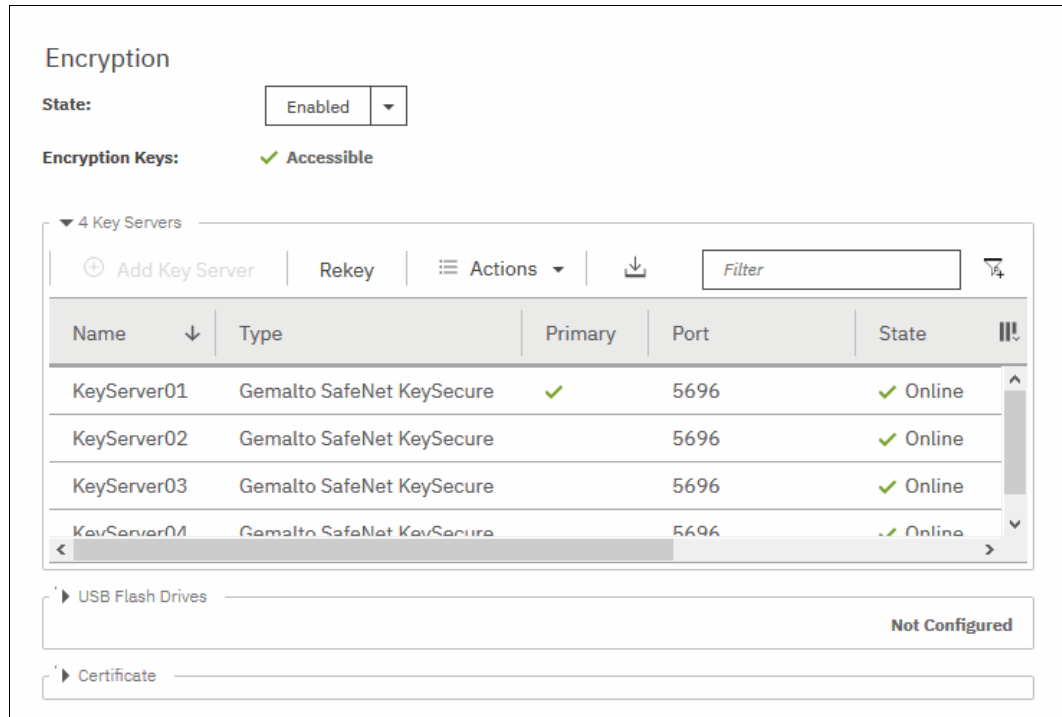

Figure 12-45 Encryption that is enabled with four SafeNet KeySecure key servers
10. Confirm that encryption is enabled by selecting **Settings** → **Security** → **Encryption**, as shown in Figure 12-45. Check whether the four servers are shown as online, which indicates that all four SafeNet KeySecure servers are detected as available by the system.